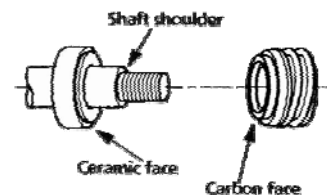

Figure 2
4. The seal head (part of Ref. No. 6) can now be pulled from the shaft. (See Figure 2).
5. Pry the seal seat (part of Ref. No. 6) from the adapter (Ref. No. 4). (See Figure 2).
5. Wet the inside rubber portion of the new seal head 9part of Ref. No. 6) with a light coating of soapy water. Slide head onto the motor shaft with the sealing surface (Carbon) facing the seal seat (See Figure 2). This completes seal installation.